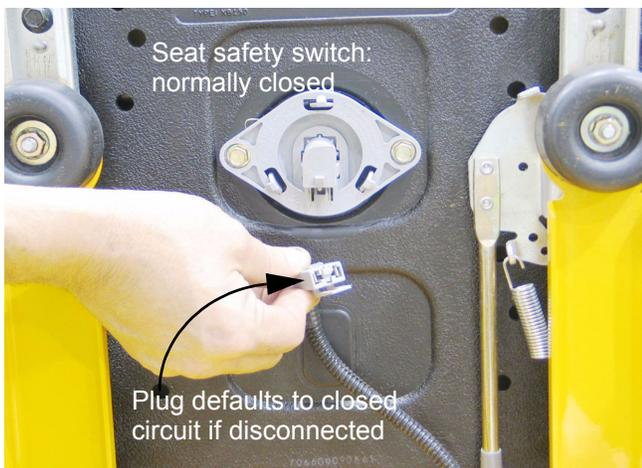

Figure 31.3
- 31.3. The seat safety switch is central to the system. See Figure 31.3.